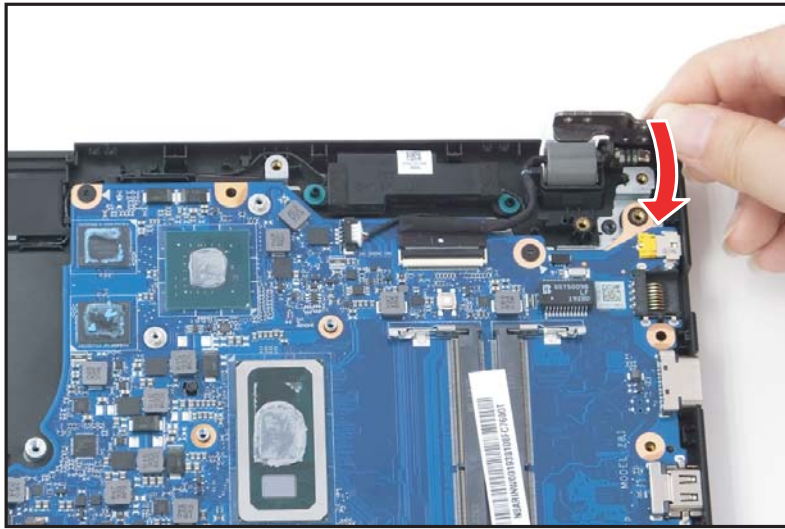

Figure 1-90. Replacing the Mainboard
12. Close the right side of LCD hinge until it is fully seated in place (Figure 1-90).